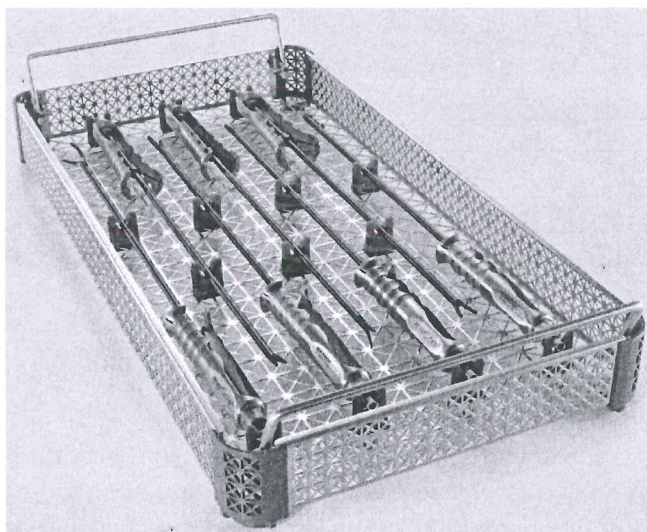

Fig. 7-1: Product overview
- The instrument trays used for cleaning must be loaded so that the desired cleaning result will not be compromised (see e.g. Fig. 7-1).